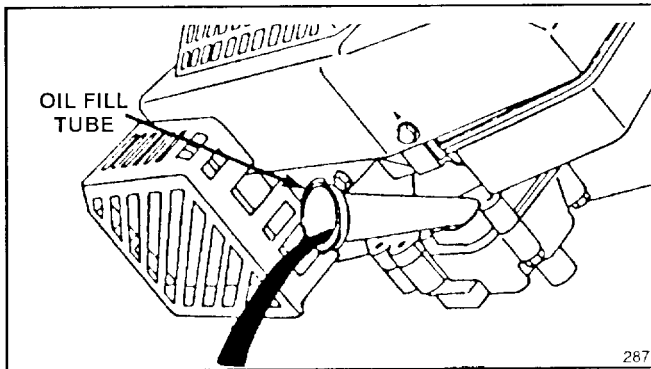

Figure 13
4. Tip mower on its left side, allowing oil to drain into drain pan (Fig. 13).